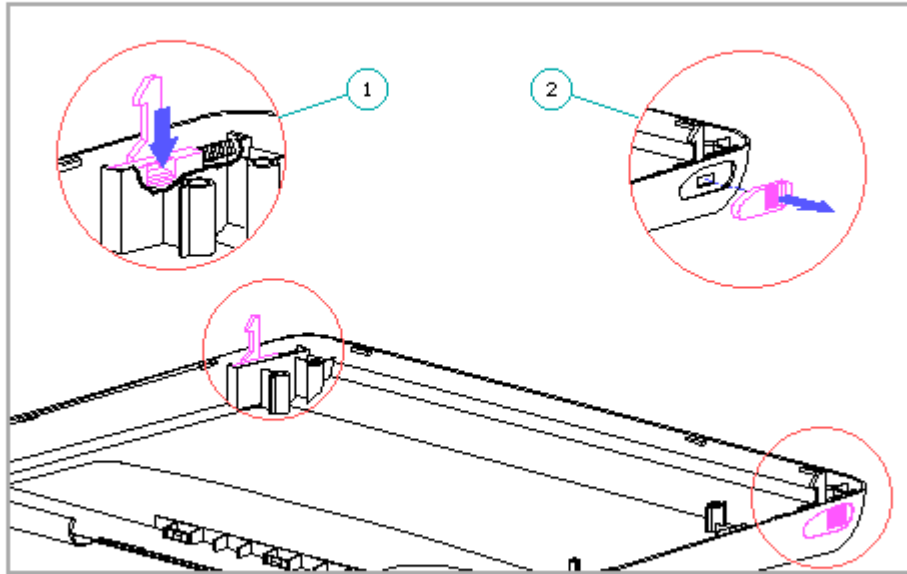

Figure 4-20. Removing the Display Latches
2. Press on the retaining tabs [1] inside the display enclosure while removing the latch buttons [2] (Figure 4-20).